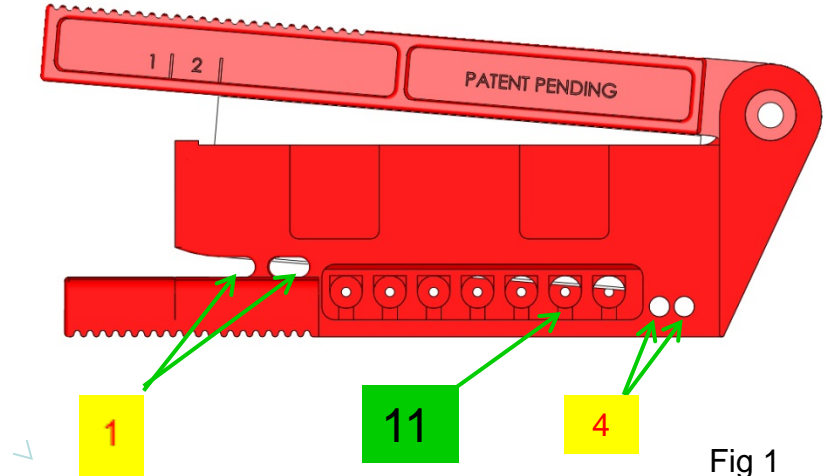

Fig 1
- 1.If necessary, use the tool to cut the plastic optical fiber from the cable spool or just finishing the bare cable in slots # 1 as shown in (Figure 1).
- 3.Slide the slit POF cable into the strip hole, Item 4 in Figure 1. You want to strip at least 24mm of jacket off the cable.